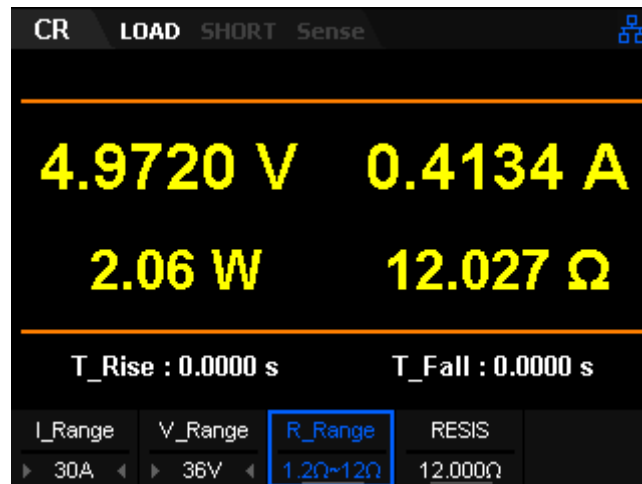

Figure 2-9 Main Interface of CR Mode
2. Press **CR** to enter the main interface of CR mode, as shown in Figure 2-9.